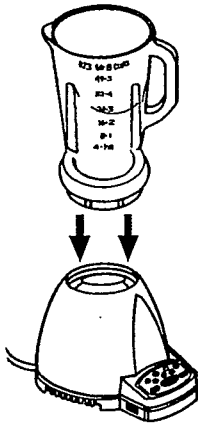

FIGURE 1
3. Place Glass Blending Jar into position on Motor Housing. (See Figure 1.)